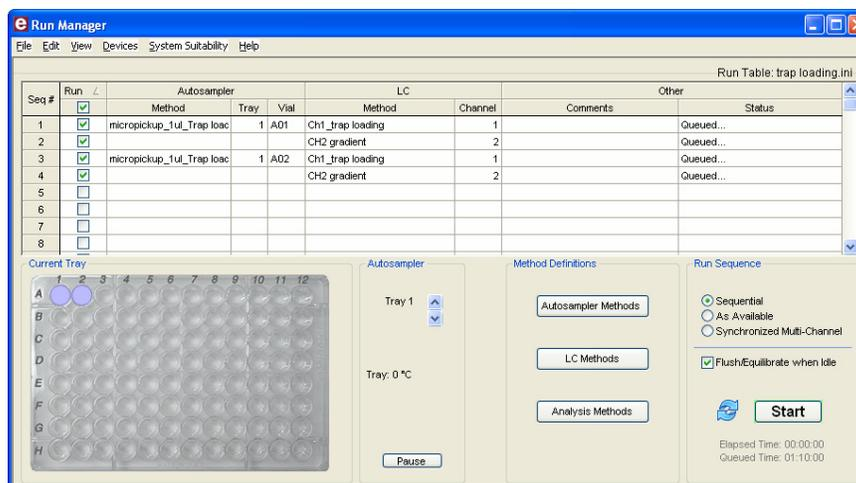

Figure 5-16. Run Manager Window – Two Samples
step 9 For each sample you wish to run, duplicate these two lines in succession. In Figure 5-16, two sample injections are indicated.
step 12 Now that the run table has been defined (Figure 5-16), save it by selecting **File > Save**.